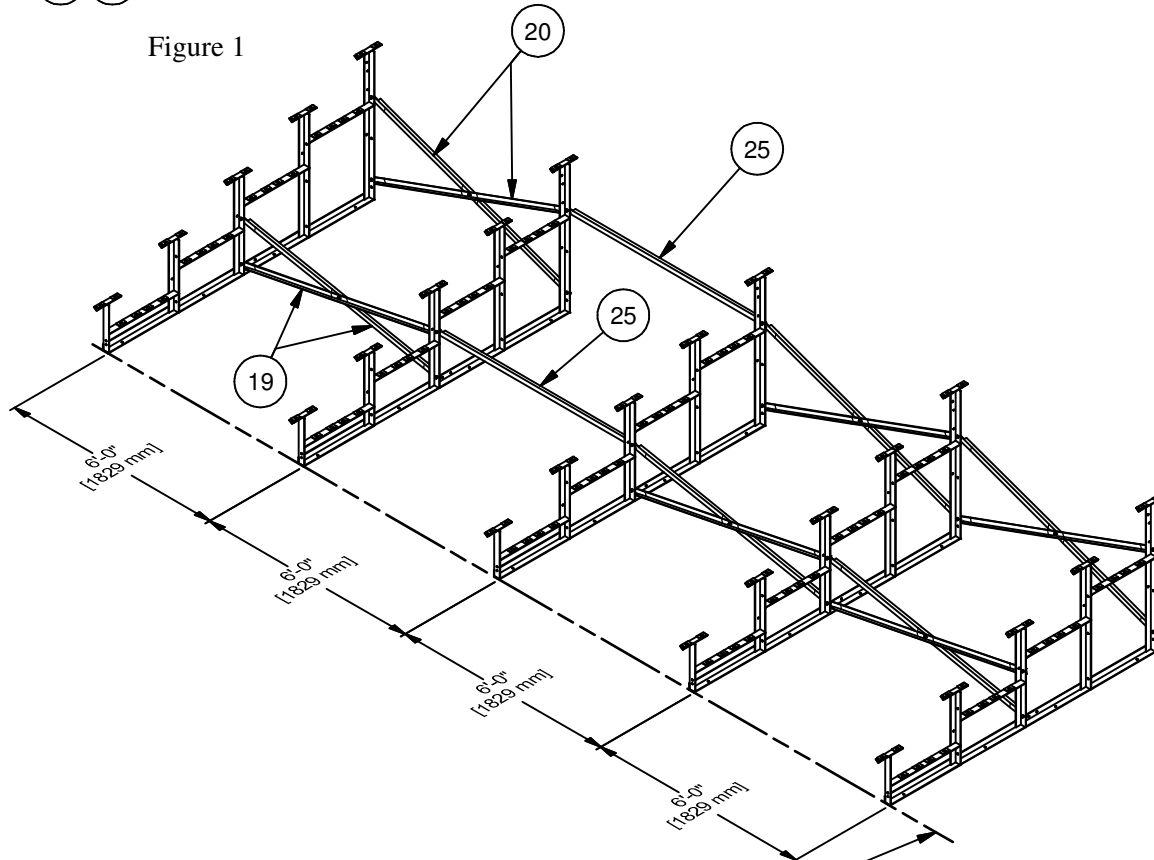
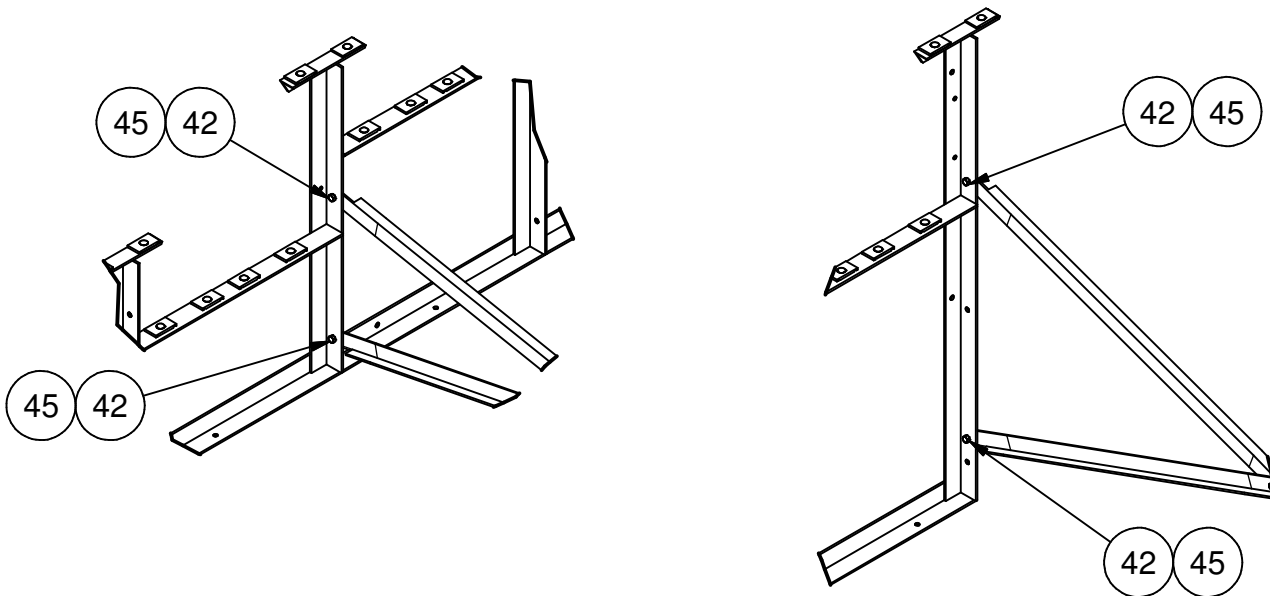

Figure 3
Figure 4
3. Lay out the Frame weldments approximately 6' apart. Refer to figure 3 for proper frame spacing. Install the brace sub-assemblies from step 2 using the 3/8" x 1" hex bolts and 3/8" whizlock nuts as shown in Figure 4. Cross braces are connected to the frames at verticals 3 and 5. Refer to figure 3 for item number and page 2 for brace angle length. NOTE: Cross braces are located in the end bays and either bay 2 or bay 3. Straight spacer braces are located in bay 2 or bay 3 at row 3 and row 5 only. If the cross braces are going to be located in bay 2, the straight braces must be located in bay 3. However, if the cross braces are going to be located in bay 3, the straight braces must be located in bay 2. After all braces are installed, square the frame and make sure the front of the frame is in line.